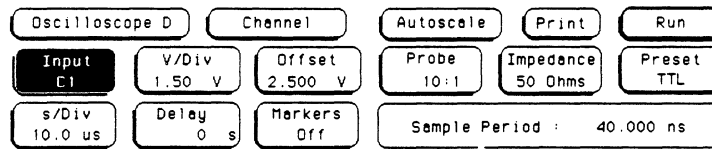

Figure 4-32. Channel Select Field
- e. Touch channel select field and switch to channel 2. See figure 4-32. Set impedance to 50 Ohms.